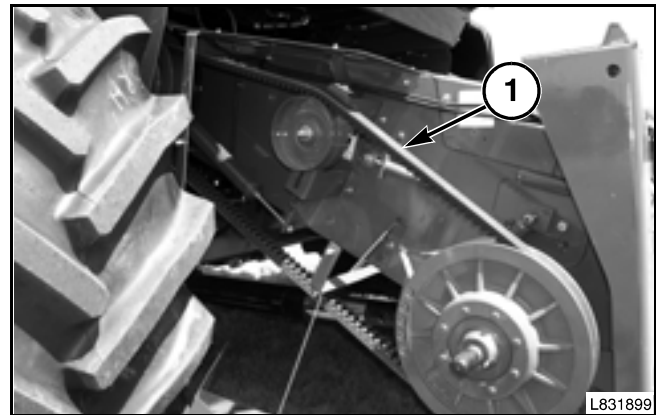

FIG. 5
FIG. 5: Variable Speed Header Drive - Power flows from the variable speed jackshaft through a belt (1) to the header drive countershaft that is mounted under the feeder housing.